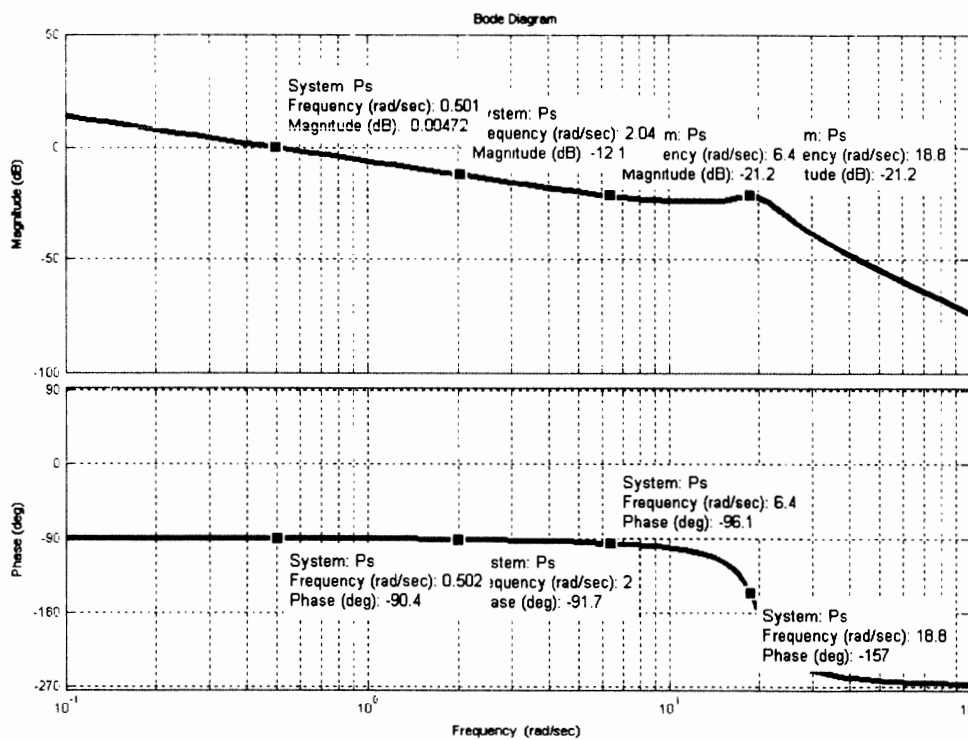

Figure 3
- 3) Figure 3 shows the Bode plot of a simplified hydraulic actuator for position control. The plant is denoted by  $P(s)$ . To improve the transient response, we would like to design a lead controller for  $P(s)$ .
- Present an approximate Bode plot of your controller on Figure 3.